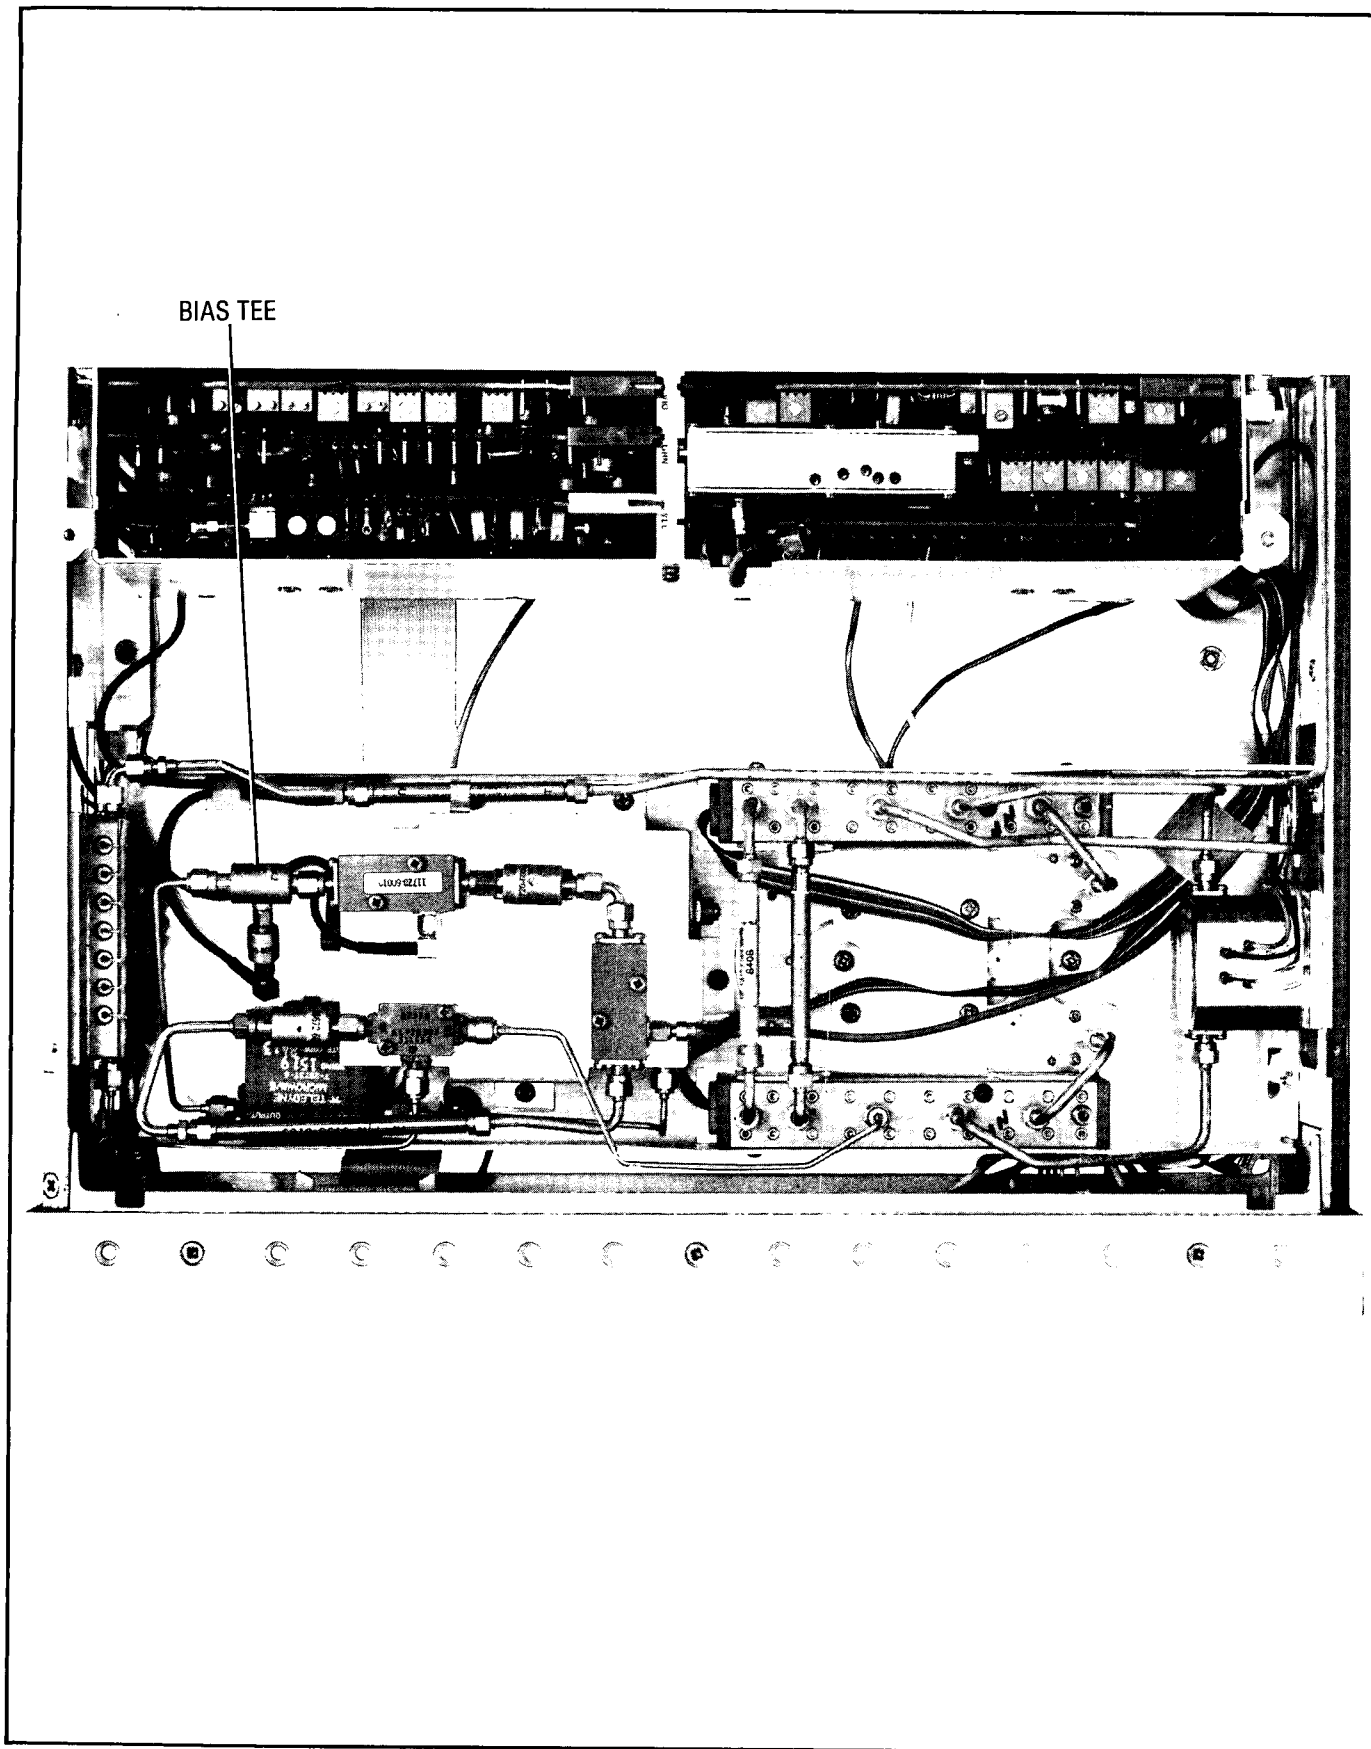

Figure 8-61. Bias Tee
- Set both LINE switches to OFF then remove the bias tee A1CP1 (See Figure 8-61). Using the DVM, measure the resistance between: